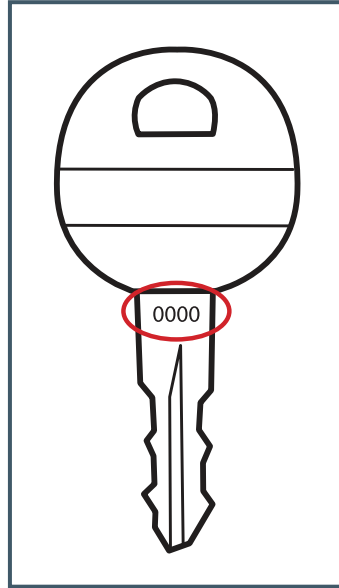

Fig. 9
1. Locate the 4-digit number inscribed on your key. (Fig. 9)